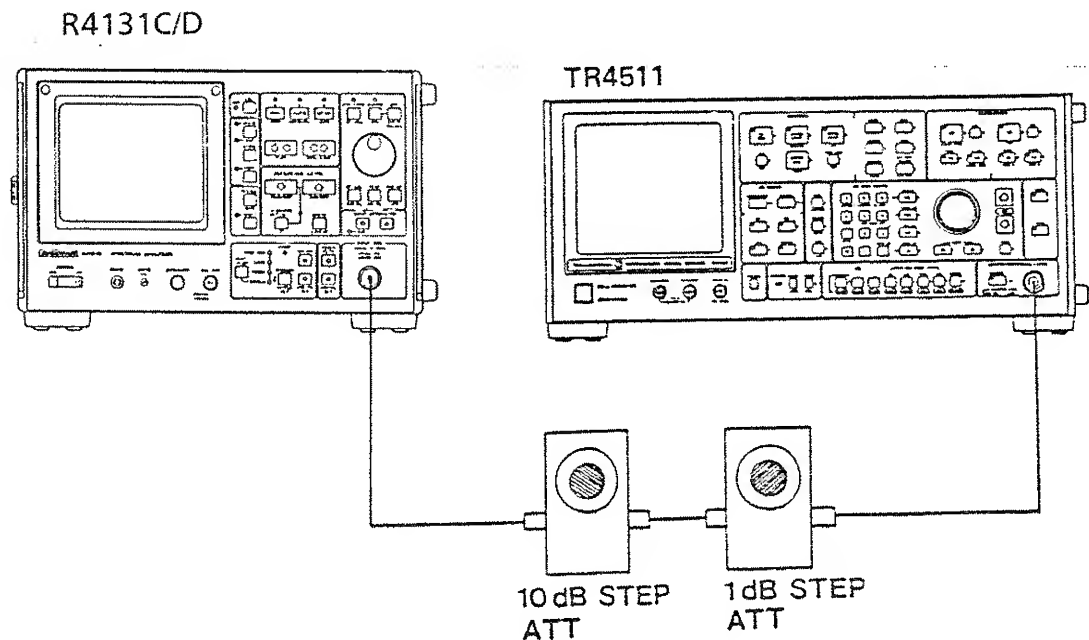

Figure 11-17 Reference Level Accuracy Test Setup
- ② Set the output frequency of the synthesized signal source to 200 MHz (CW), -10 dBm, and connect the source to the spectrum analyzer INPUT connector using attenuators as shown in Figure 11-17.